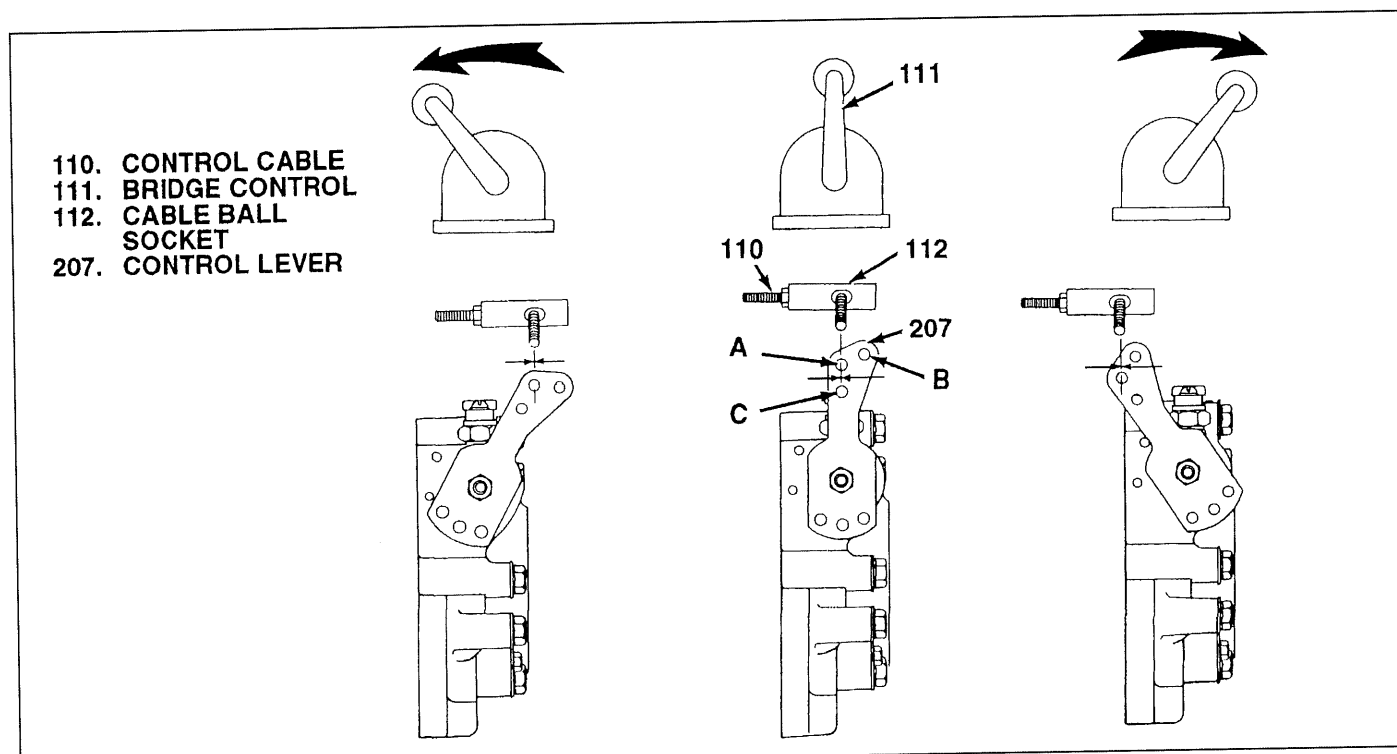

Figure 2-3: Control Cable Adjustment
2-15 When the engine shut down, make cable adjustments as follows (see figure 2-3):
NOTE: Before the following steps, determine which hole the control cable is connected to, A, B, or C. The center hole is the one most commonly used. Stop to stop travel of the center hole (A, figure 2-3) is approximately 2-3/4 in. (70MM). Stop to stop travel for the outer hole (B) is 3 in. (76MM). Stop to stop travel for the inner hole (C) is approximately 2-3/32 in. (53MM).
1. Disconnect control cable from transmission shift lever (207).
2. Place bridge control lever (111) in central, neutral position.
3. Move transmission shift lever (207) to its central neutral position. Make sure lever detent ball is engaged.
4. Adjust cable ball socket (112) to align with proper